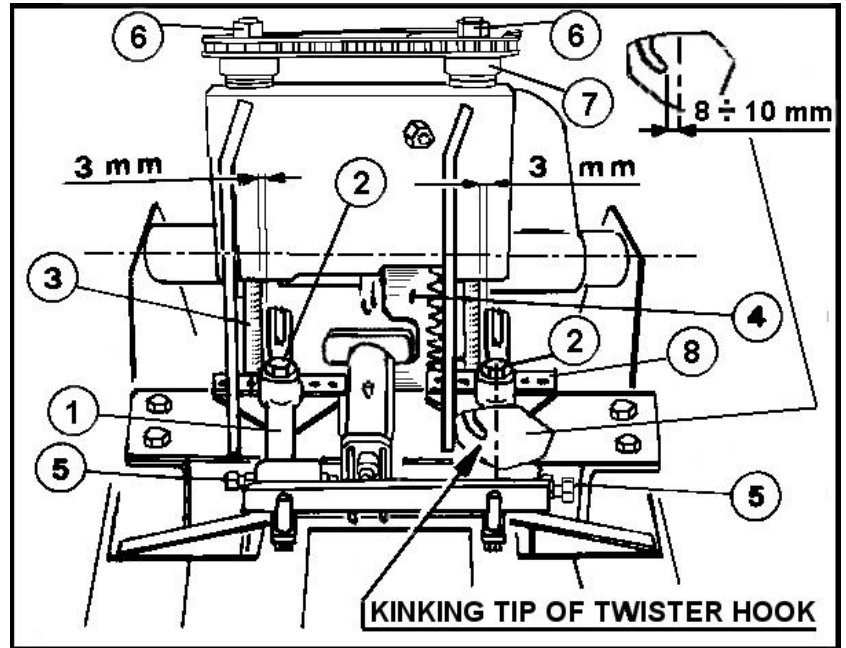

Fig. 23
3. The twister hook tips, which are made to rotate by the semi-toothed gear (n° 4 Fig. 23), grab the (wire) ends brought by the needles and the (wire) ends already held by the wire holder cutters and twist them together.